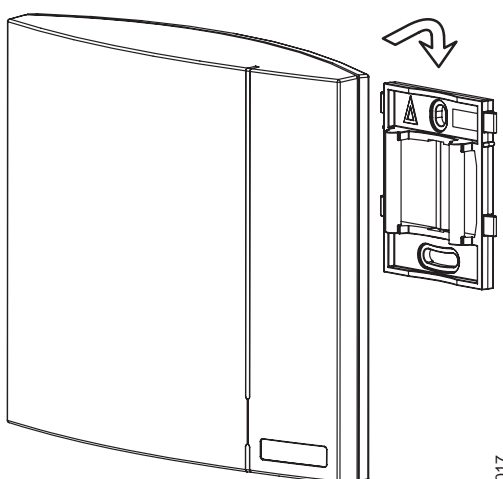

*Figure 10. Cables entering centrally from above*
- 1 If it is required that the cables enter the base station centrally from above, guide the cables through the recess in the middle of the base station as shown in figure 10 on page 24.